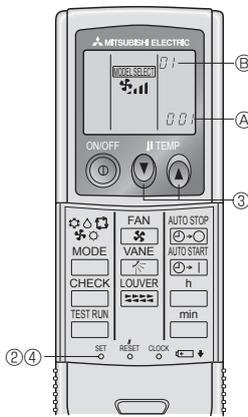

Fig. 6-3
2) Automatic fan speed setting (Fig. 6-3)